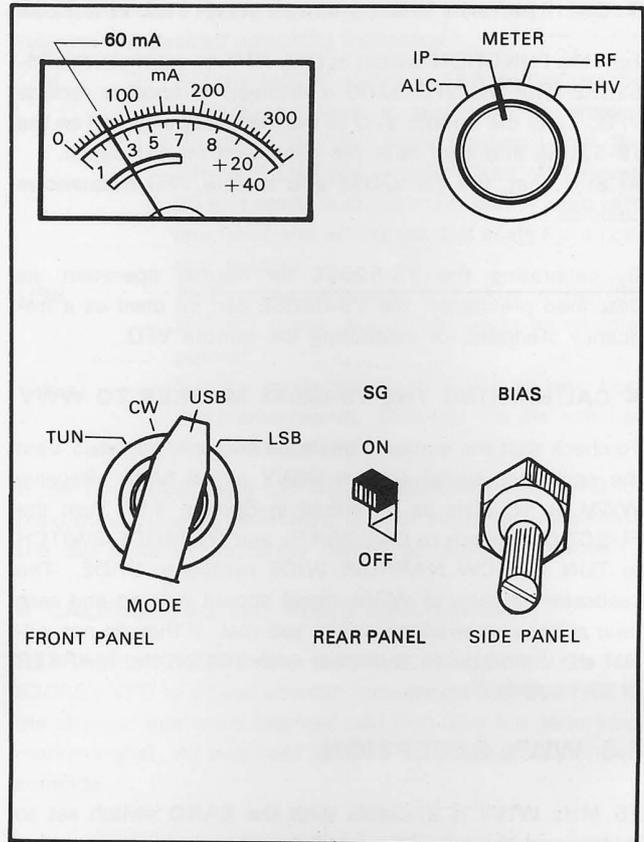

Fig. 4-2 Plate Idling Current Adjustment
■ PLATE IDLING CURRENT (See Figure 4-2)